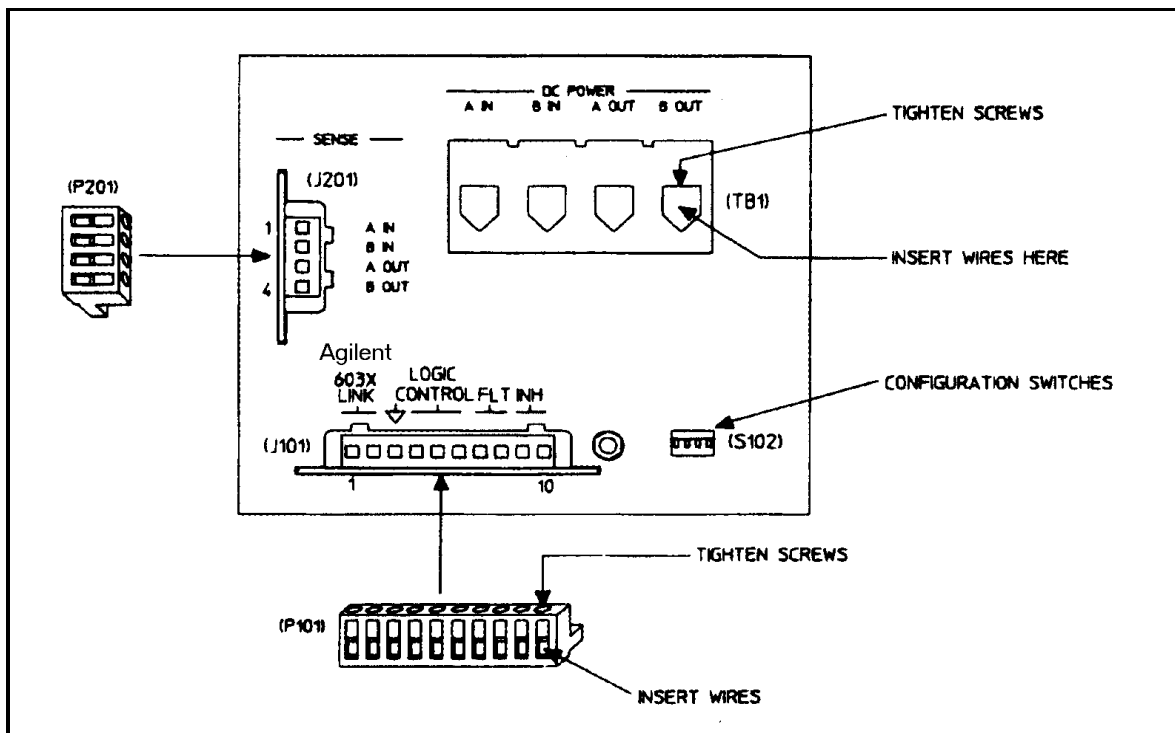

Figure 3-1. Agilent 59510A/59511A Front Panel Connections
Figure 3-1 illustrates the front panel of the Agilent 5951XA where connections and switch selections are made.
The dc power wires are connected to the screw-down terminals on the DC POWER barrier block TB1 as specified above. Each wire is inserted into the appropriate terminal and the corresponding screw is tightened until the wire is securely fastened (see Figure 3-1).
The sense wires are connected to the pins of the SENSE connector mating plug P201 as specified above. Each wire is inserted into the appropriate pin and the corresponding screw is tightened until the wire is securely fastened (see Figure 3-1). The plug is then installed in the SENSE connector (J201).
These switches (S102-1 to S102-4) are located on the rear panel of the Agilent 5951XA as shown in Figure 3-1. In order to program the Agilent 603XA/5951XA configuration, switches S102-3 and S102-4 must select address 0, and switch S102-2 must be set to the Agilent 603X LINK position ("1").
The remote inhibit ( $\overline{\text{INH}}$ ) input (J101-9 and 10) and the fault ( $\overline{\text{FLT}}$ ) output (J101-7 and 8) on the Relay Accessory (see Figure 3-1) are used in place of the  $\overline{\text{INH}}$  input and  $\overline{\text{FLT}}$  output on the Agilent 603XA power supply in an Agilent 603XA/5951XA configuration. The  $\overline{\text{FLT}}$  line provides the user with a means of knowing the status of any unmasked fault register bit, independently of the service request (SRQ) function available through the GPIB. The  $\overline{\text{INH}}$  line controls the remote inhibit (RI) bit in the power supply's fault register and provides a way to disconnect the power supply output from the load. The fault registers are described in detail in the applicable Agilent 603XA Operating and Service Manual (see page 1). Both  $\overline{\text{INH}}$  and  $\overline{\text{FLT}}$  are negative true, i.e., they are active when they are low levels. Pins 8 and 10 are the commons for the  $\overline{\text{FLT}}$  and  $\overline{\text{INH}}$  signals, respectively. Both  $\overline{\text{FLT}}$  and  $\overline{\text{INH}}$  may be floated relative to ground and to each other. Refer to Table 1-1 for details.